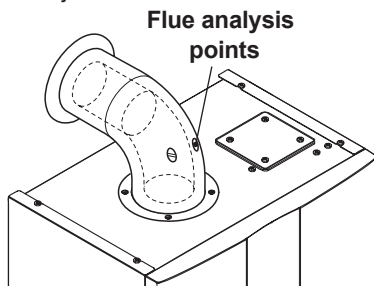

Fig. 10.12
It is recommended that a combustion analysis check is made. Remove the plug as indicated in Fig. 10.12 and carry out combustion analysis check and adjustment if necessary as described in the section Gas valve - Adjustment of the Service manual.
- Check the combustion of the boiler using the outlets located on the flue tubes (Fig. 10.12) and compare the data measured with that following.